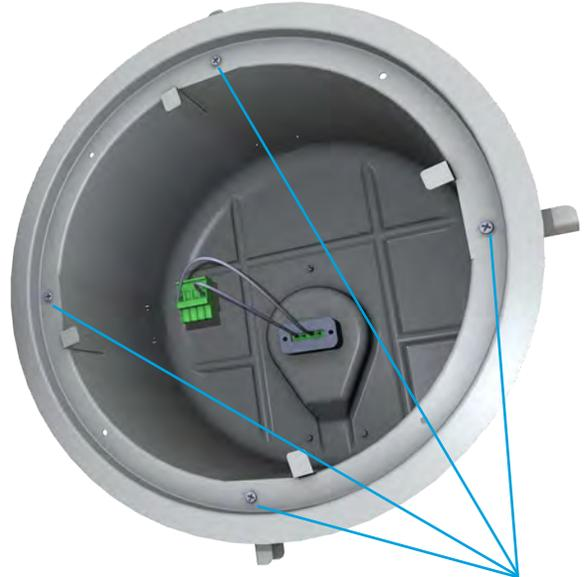

Figure 27. Turning the can clamp actuators clockwise securely locks the back can into the ceiling.
5. Locate the four Phillips-head can clamp actuators around the perimeter of the back can's front flange (see Figure 27). Using a #2 Phillips screwdriver twist each actuator clockwise until you feel resistance as the can clamp presses against the ceiling.
3. Locate the four Phillips-head can clamp actuators around the perimeter of the back can's front flange, and using a #2 Phillips screwdriver twist each actuator clockwise until you feel tension as the clamps securely lock the back can to the ceiling (refer to Figure 27 on page 24). The back cans leave the Community factory with these clamps fully open (so that approximately 1.5" / 38 mm thick ceilings can be accommodated).